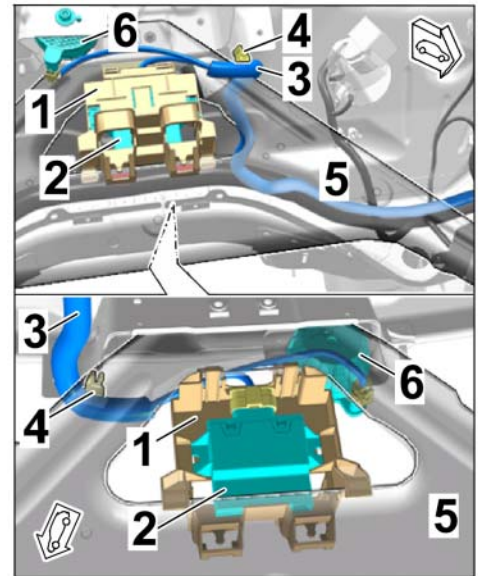

Figure 10
2.3 Remove standard engine noise control unit from control unit holder (⇒ *Figure 10*).
2.5 Install the holder with the engine noise control unit to the strut brace (plenum panel area ⇒ *Figure 10*).